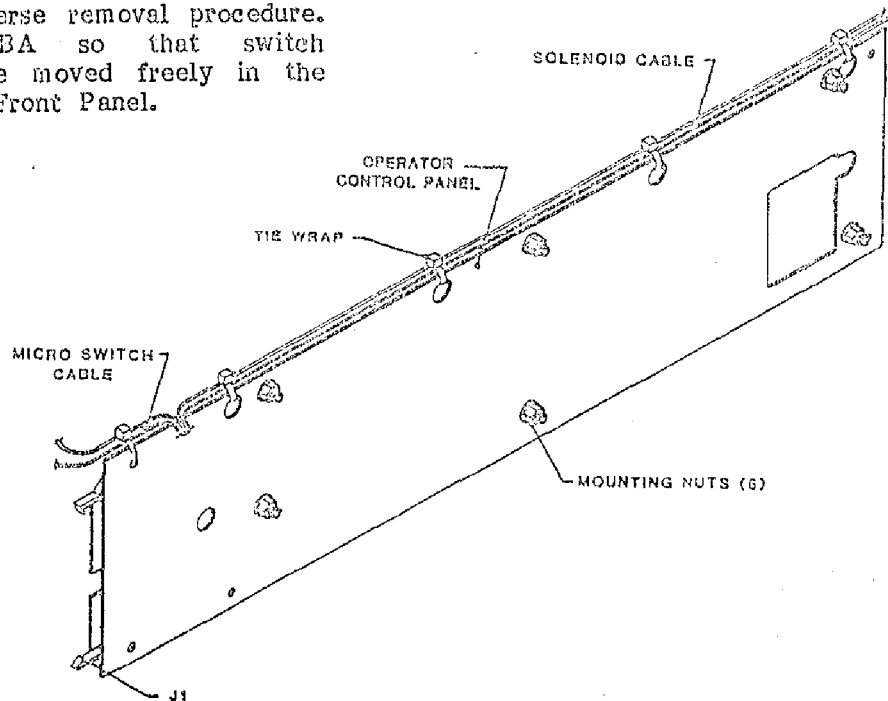

Figure 5-10. Operator Control Panel PCBA
5.3.12 OPERATOR CONTROL PANEL PCBA (Fig. 5-10)